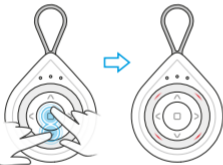

Fig. 15.1
1. Simultaneously press and hold STOP and DOWN button until the LEDs light red. (Fig. 15.1).